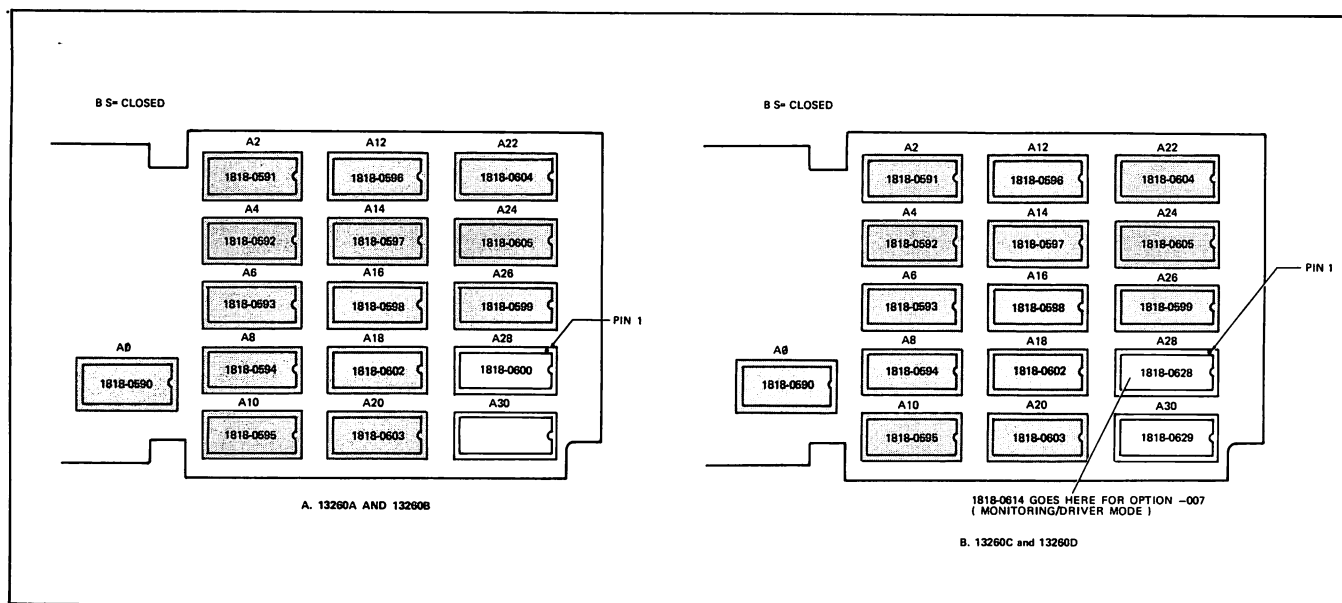

Figure 7-12. Control Memory PCA Data Comm Firmware IC Locations
7. ( ) Remove IC's, if present, from DATA COMM sockets A28 and A30 of Control Memory PCA (see figure 7-12).
9. ( ) Carefully insert ROM(s) contained in accessory package into DATA COMM socket(s) so that ROM pin 1 is at upper right corner of socket (see figure 7-12). Also, be sure that the switches on the PCA are set to the positions shown in figure 7-9.